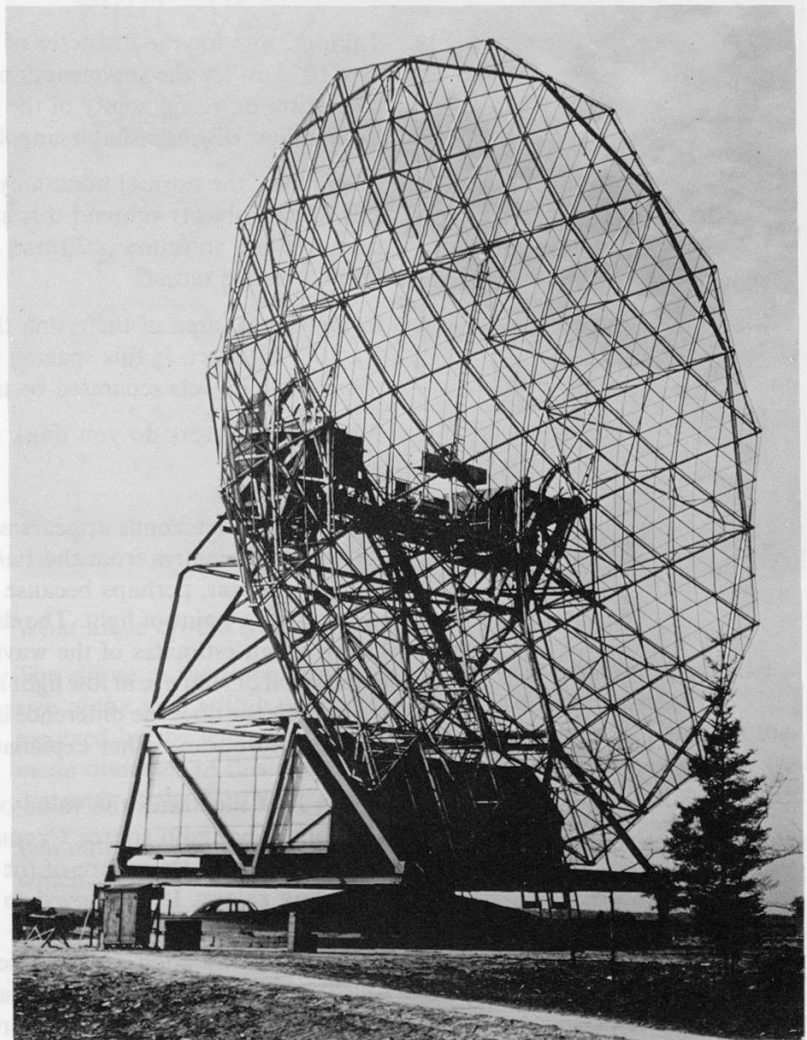

Figure J107
- 14(P)** Figure J107 shows the dish-shaped reflector and aerial of the radio telescope at Dwingeloo in the Netherlands. It was used to plot the distribution of hydrogen gas in our galaxy by detecting the characteristic radiation (wavelength 0.21 m) emitted by hydrogen atoms in space. The galaxy has a flattish, multiple spiral structure with the Sun about two-thirds of the way from the centre in one of the spiral arms.
- c It is proposed that a similar telescope be built with a dish diameter ten or a hundred times bigger than that at Dwingeloo. You will see from figure J107 that this telescope can be steered to point at different places in the sky. What arguments might there be for and against this proposal?